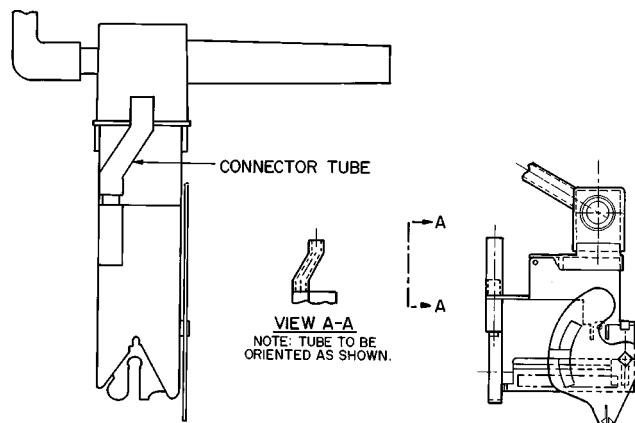

Fig. 13 — Correct Orientation of Connector Tube
5. *37HS2 and 37HS4:* The VAV control packages are shipped with the diffuser thermostat and volume controller connected by a flexible offset connector tube. Verify that the offset is in the correct direction. See Fig. 13.